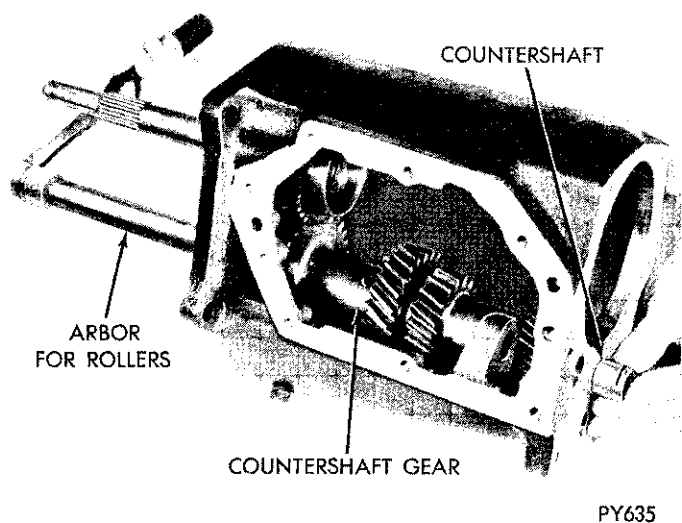
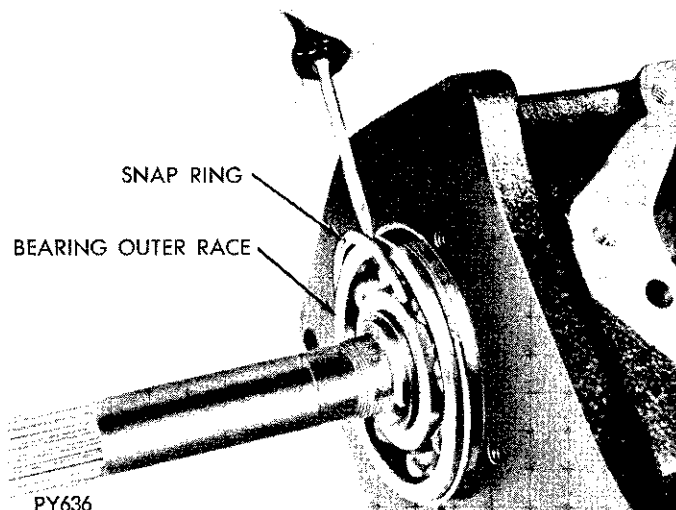

Fig. 9—Countershaft Removal
Fig. 10—Snap Ring on Pinion Gear Bearing—Removal
(1) Using a mallet and arbor Tool C-4112 tap countershaft rearward and remove key. Continue to drive countershaft out of case, maintaining contact between shaft and arbor so that washers will not drop between them (Fig. 9).
(2) Lower countershaft gear to bottom of case to permit removal of main drive pinion.
(3) Remove snap ring from pinion bearing outer race (Fig. 10).
(4) Using a plastic hammer, drive the pinion into